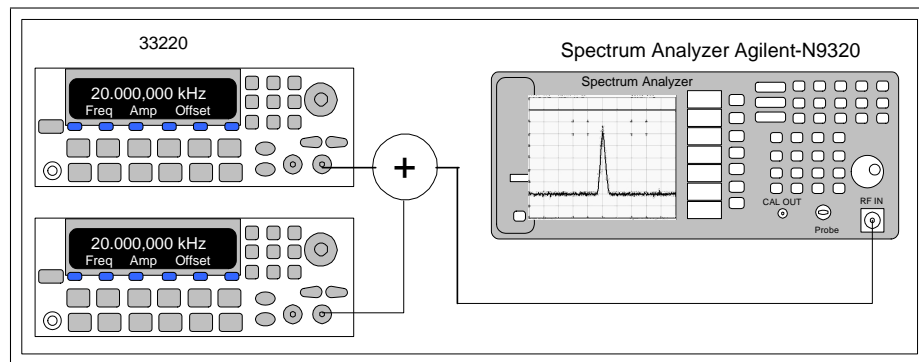

Figure. 14 Setup for resolving two equal amplitude signals
1. Connect the system as indicated in Fig 14.